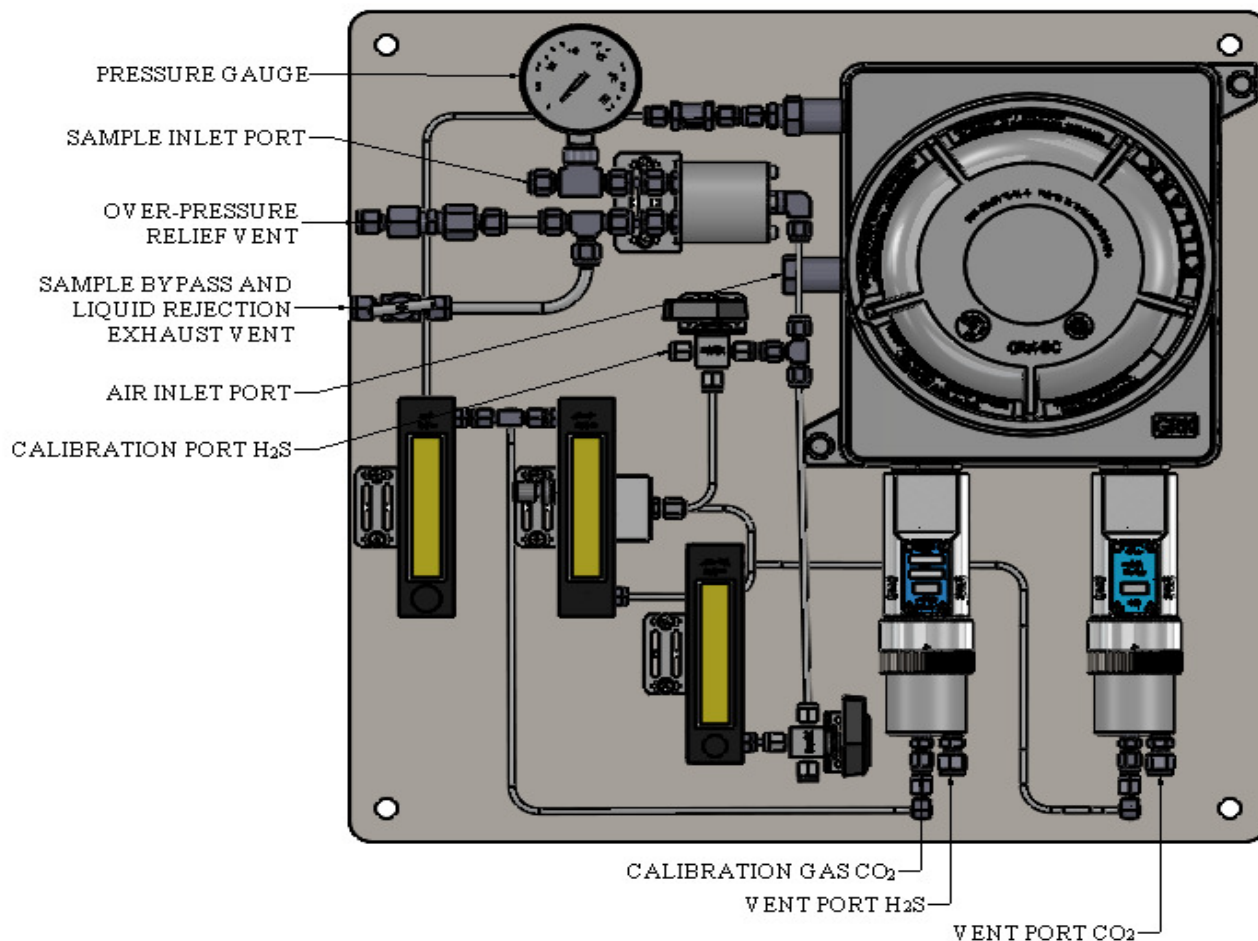

Figure 6 Port Identification
1. Install a length of tubing from the desired sample point to the sample inlet port as shown in Figure 6: Port Identification. Sample draw tubing should be 316 stainless-steel of 1/4" O.D.